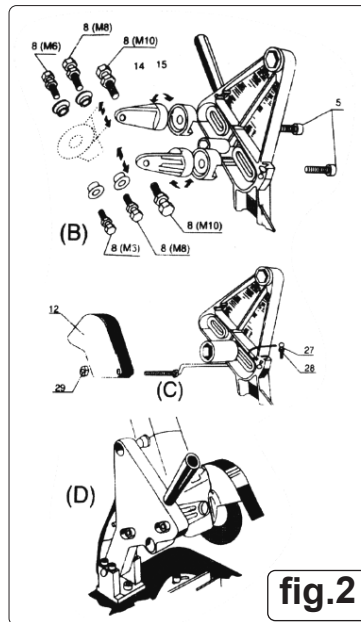

fig.2
- 5.5. Secure the grinder to the holders using screws (8) and nuts (9). Note: Screws (8) and nuts (9) come in three diameters (M6, M8, M10). Select the screws compatible with the fixing nut of the angle grinder. When using M6 or M8 screws, ensure the plastic ring is fitted onto the holder beforehand (Refer to Fig.2).
- 5.8. Install the protective guard as shown in Fig.2.